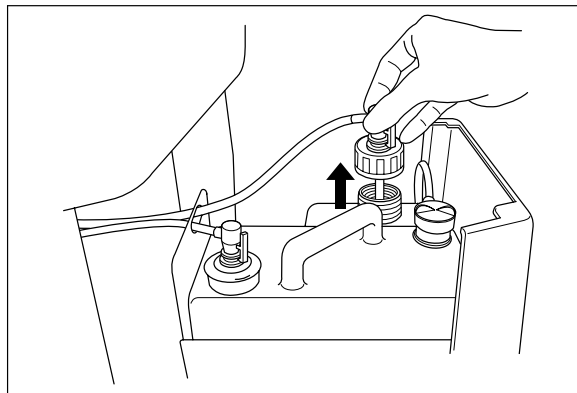

Figure 7.81
6. Detach the alcohol tank cap to which the tube is connected (Do not disconnect the connector.) (see Figure 7.81).